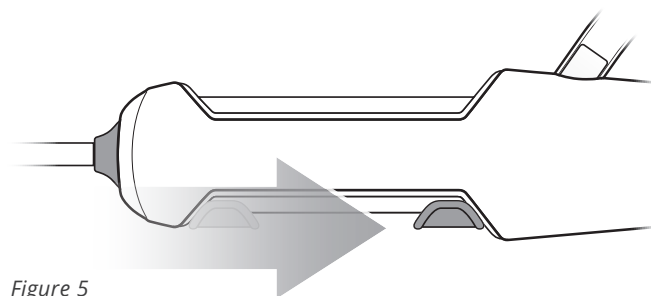

Figure 5
4. To actuate the funnel, slide the button on the handle backwards, towards the hub of the sheath until the button is locked in place (See Figure 5).